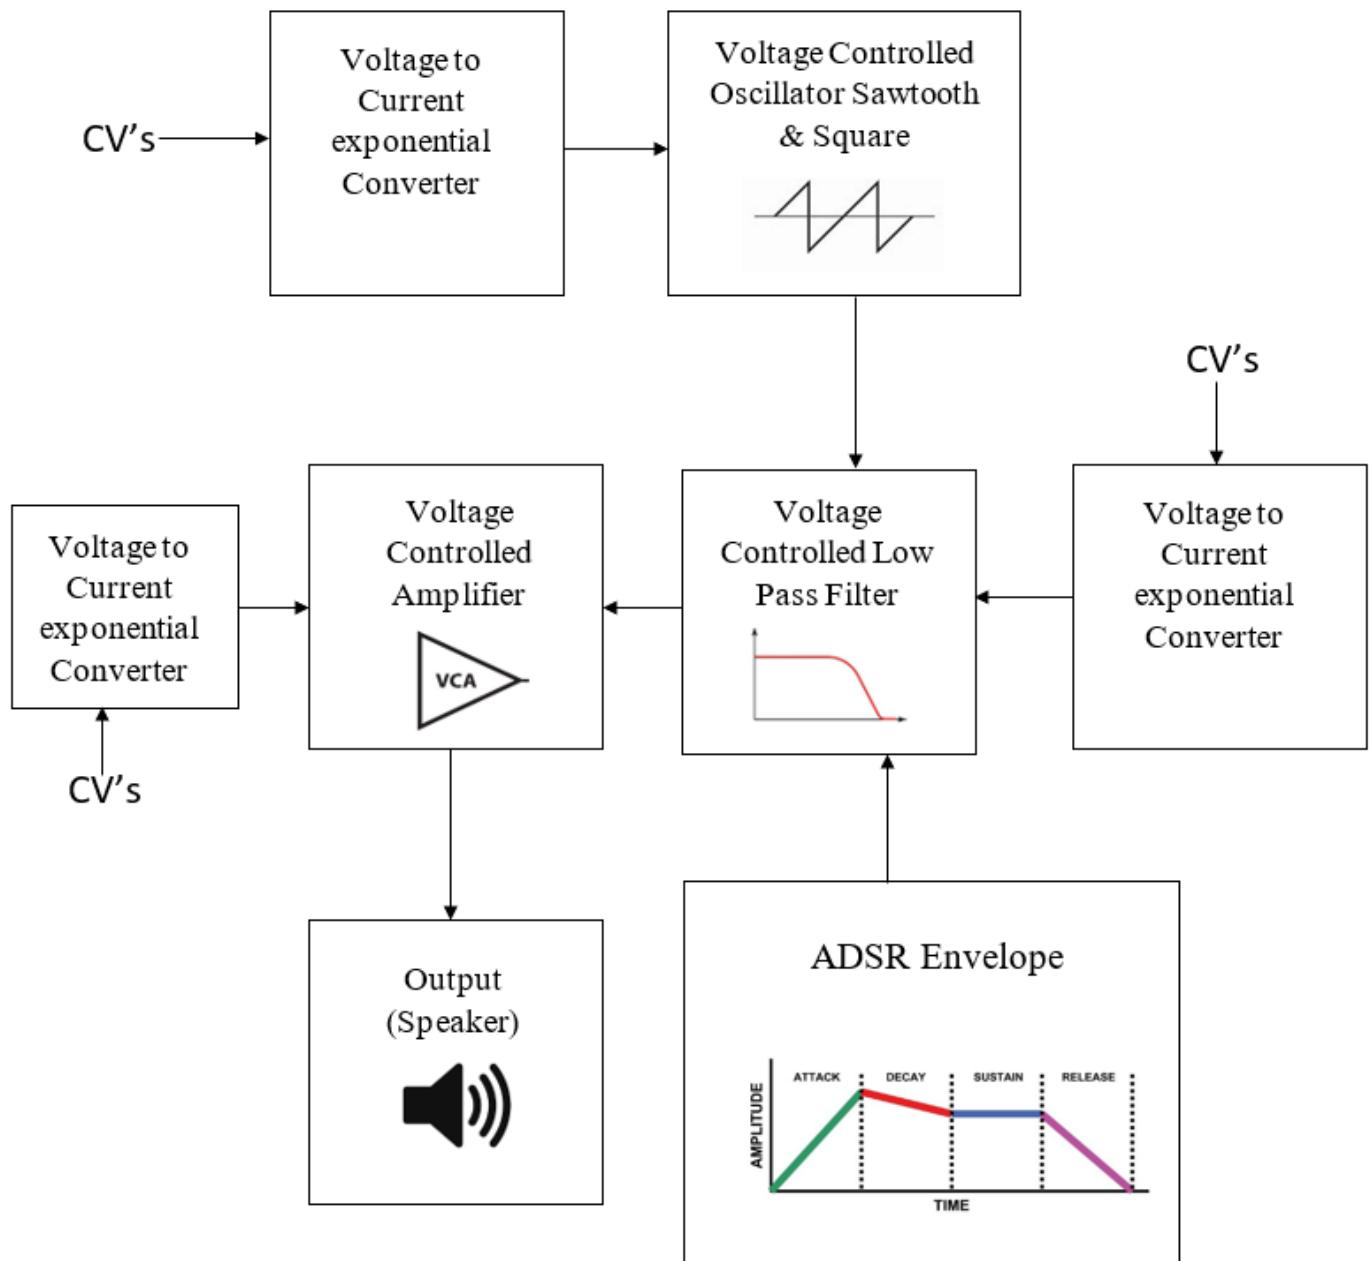

Fig. 1 - Block Diagram of Synthesizer
*Note the synthesizer is modular therefore it does not have to be connected as seen in the block diagram (Fig. 1)